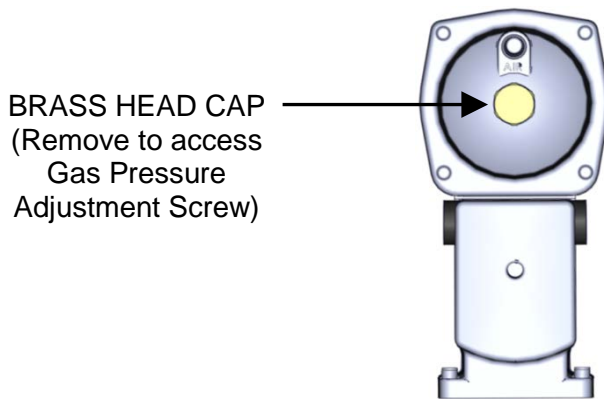

Figure J-1. Gas Pressure Adjustment Screw Location
10. Next, verify that the gas pressure downstream of the SSOV is within the appropriate range shown below for the Innovation Model being tested. If gas pressure adjustment is required, remove the brass hex nut on the SSOV actuator to access the gas pressure adjustment screw (Figure J-1). Make gas pressure adjustments using a flat-tip screwdriver to obtain a gas pressure reading within the required range for the INN model being tested.
14. If the oxygen level is not within the required tolerance, the gas pressure on the downstream side of the SSOV must be adjusted using the adjustment screw on the SSOV regulator (Figure J-1). Slowly rotate the gas pressure adjustment (approximately 1/4-turn increments). Allow the combustion analyzer to stabilize following each adjustment. Clockwise rotation reduces the oxygen level, while counterclockwise rotation increases the oxygen level.